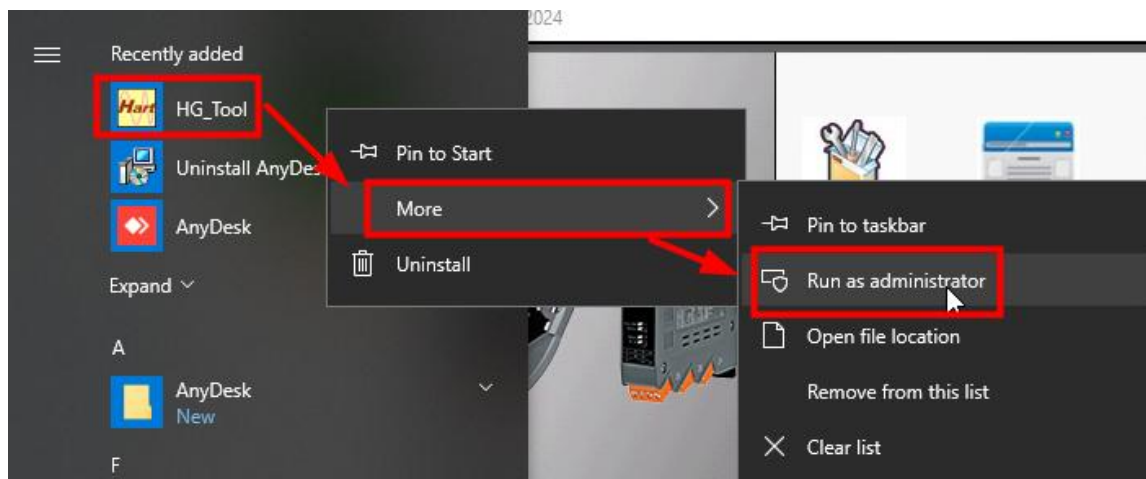

Figure 1-1-1 : Run HG_Tool with "Administrator"
(1) Run “HG_Tool” with “Administrator” and connect to I-9720 (Figure 1-1-1).